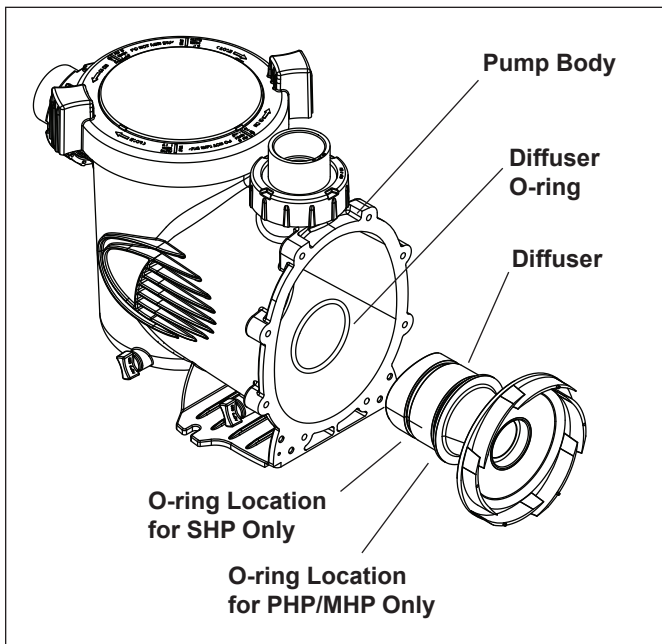

Figure 5. Location of Diffuser O-ring
6. Make sure the diffuser o-ring, o-ring groove, and o-ring seal area are clean and free of debris, which could cause a leak. If you removed the diffuser o-ring, make sure you install it in the proper location. (See Figure 5.) If grease is used to retain the o-ring, it **must** be silicone based. **Do not** use petroleum-based grease. It **will** destroy the o-ring.
7. Slide the diffuser into the mating hole in the pump body. While supporting the motor, start two (2) screws on opposite sides. This will hold the motor in position while you start the other six (6) screws.
8. Tighten the screws lightly in a crossing “X” pattern using a 9/16" wrench. Start with the inner (middle) four (4) and then tighten the outer (top and bottom) four (4) to draw the backplate to the body in an even manner. Once all the screws are snug, torque in the same order to 18 foot-pounds.